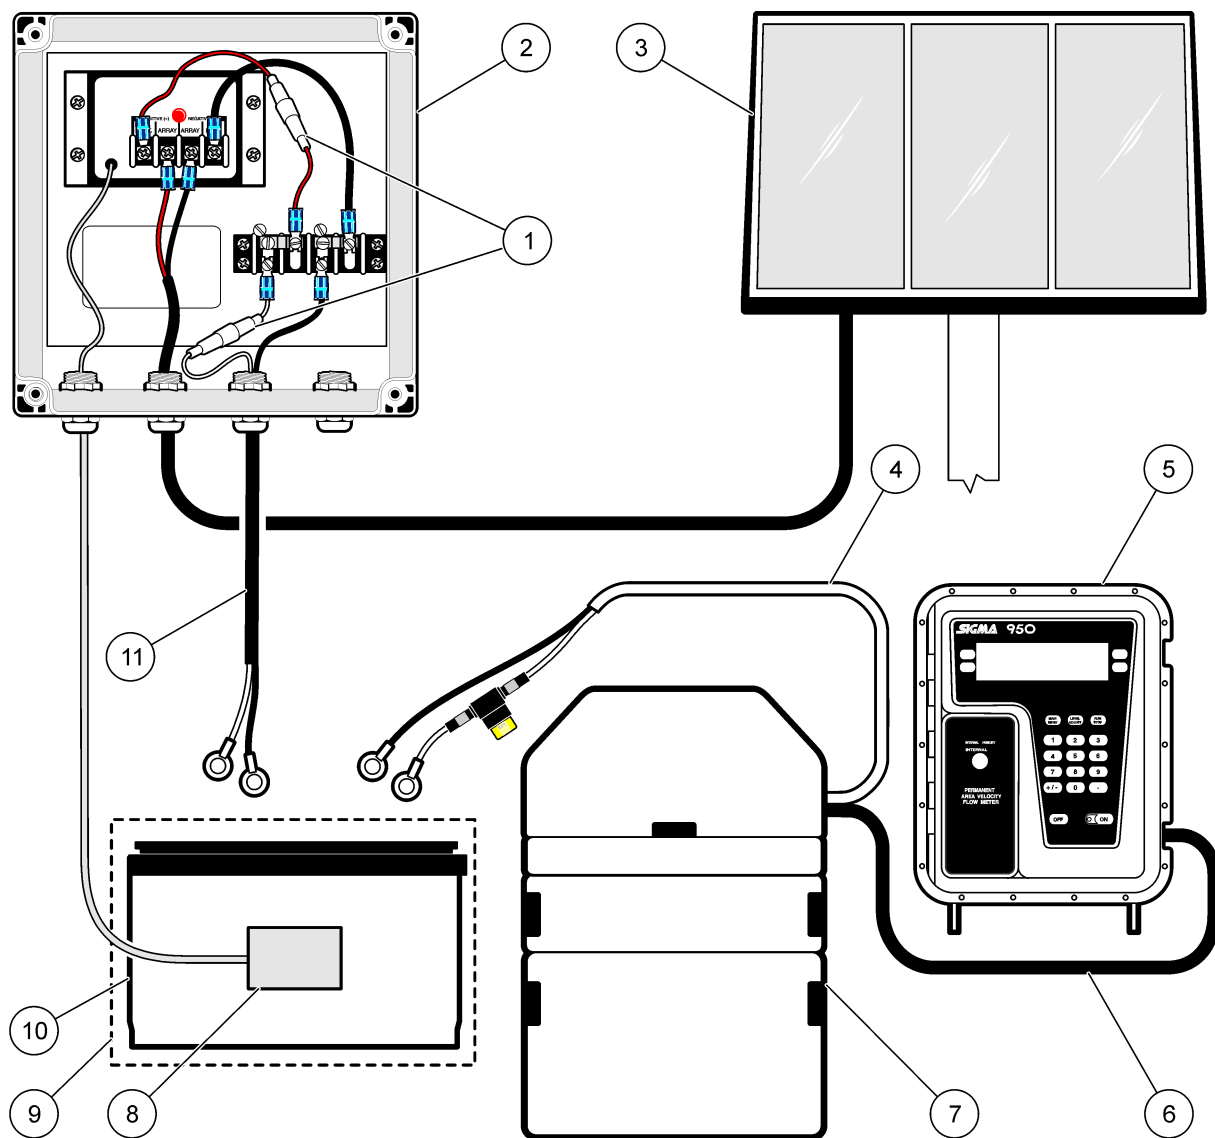

Figure 9 900 MAX or SD900 sampler with a 950 flow meter connected to a sampler
5. Remove the nut on the battery cable strain relief and feed battery cable wires through the third hole on the regulator. Thread the nut over the wire and tighten to secure. Connect the spade terminals to the screw terminals. Refer to Figure 9 on page 13.